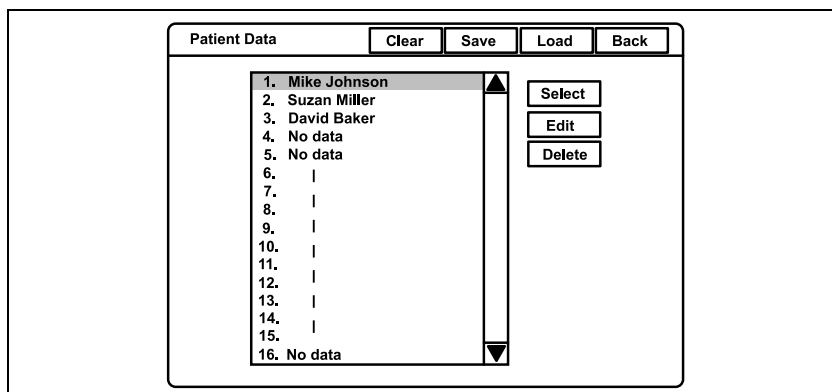

Figure 5.99
2. Press the "Shift" and "F3" keys together to display the PC card menu on the monitor (see Figure 5.99).
3. Click "Load" (see Figure 5.99). A confirmation message appears on the monitor.